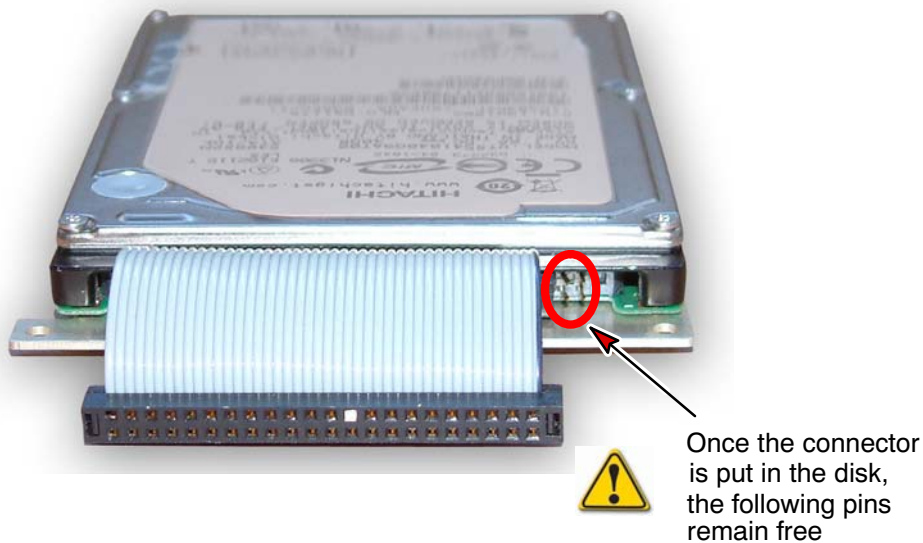

Figure 16: Plugging the cable: Disk Side
3. Plug the cable on the EIDE disk as shown in Figure 16 page 25.